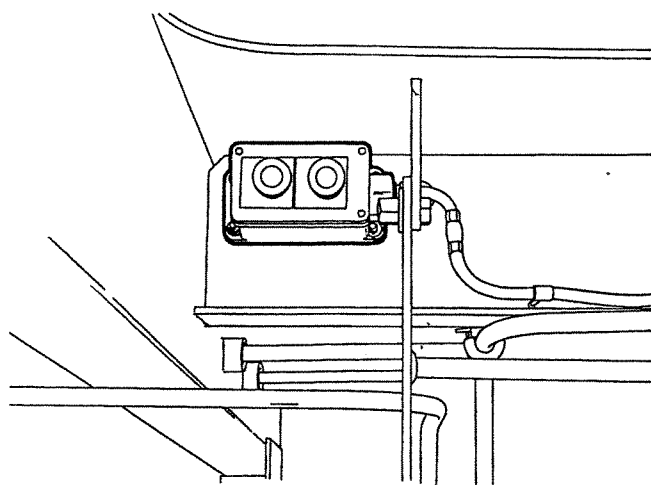

Figure 4-20. Lazarette Generator Emergency Stop Buttons (Frame 26-1/2, Centerline)
3. Lazarette — Pull button to stop at lazarette escape hatch (Figure 4-20).